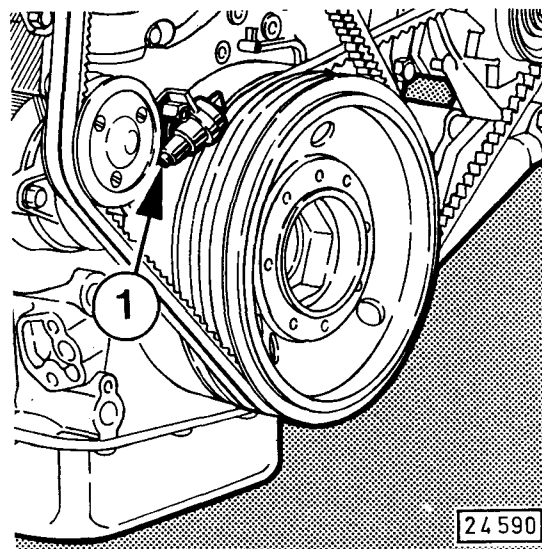

Fig. 43
In the event of V-belt failure, the idler pulley will operate the electric switch 1 (Fig. 43), thus causing an audible or visual warning to be given.
- Press in the pin 1 (Fig. 43) with finger to check function.